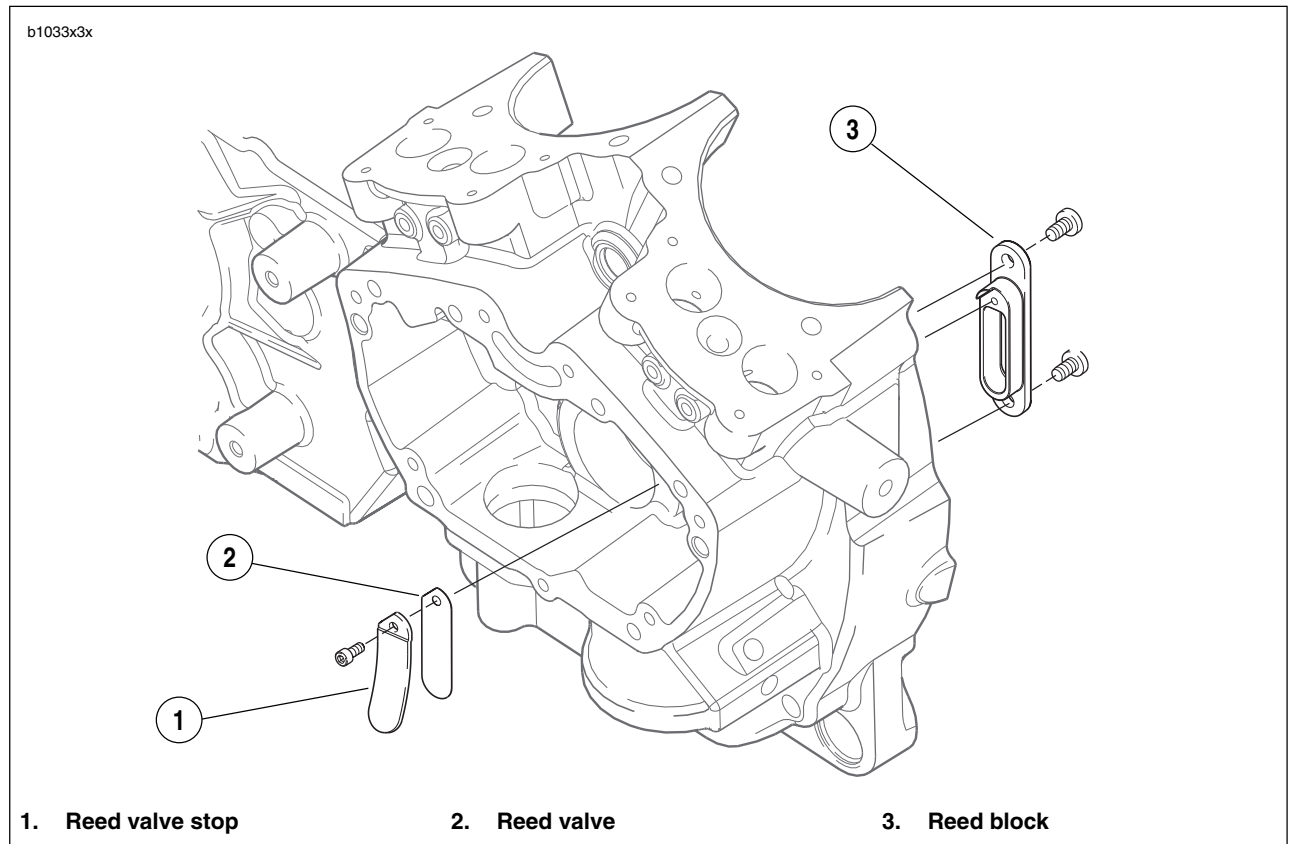
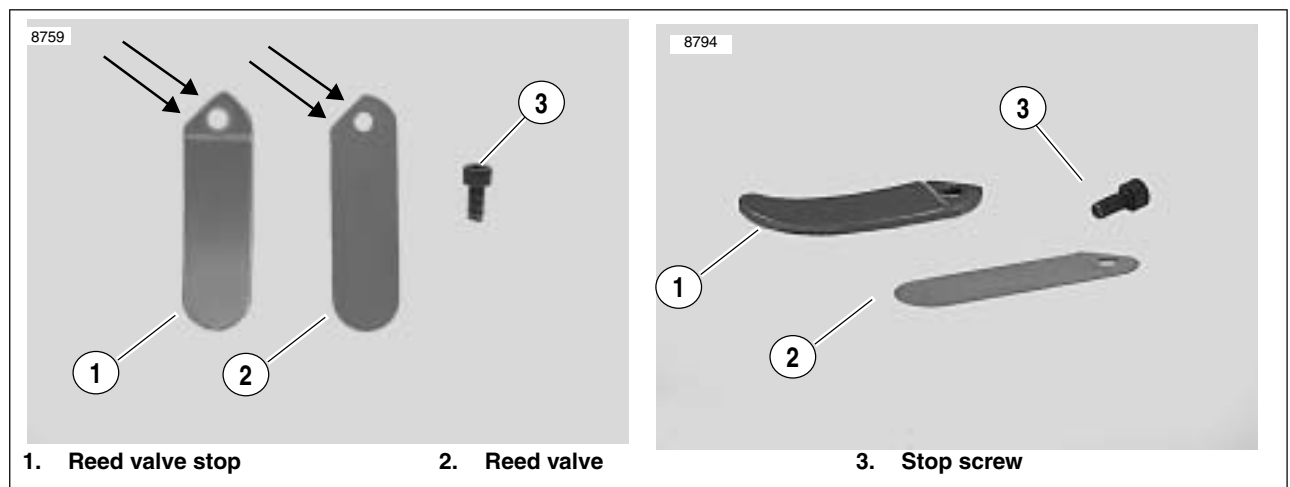

Figure 3-116. Reed Valve Assembly
Figure 3-117. Reed Valve Stop and Reed Valve
- See Figure 3-117. The reed valve (2) is what moves out with the downstroke and in with the upstroke of the pistons. The reed valve stop (1) limits the movement the reed valve (2). See 3.12 CRANKCASE BREATHING SYSTEM.
See Figure 3-117. When replacing the reed valve it is extremely important to ensure that both edges of the reed valve stop (1) and the reed valve (2) are properly aligned to prevent premature failure of the reed valve. When replacing the reed valve it is not necessary to replace the reed block. See Figure 3-116.